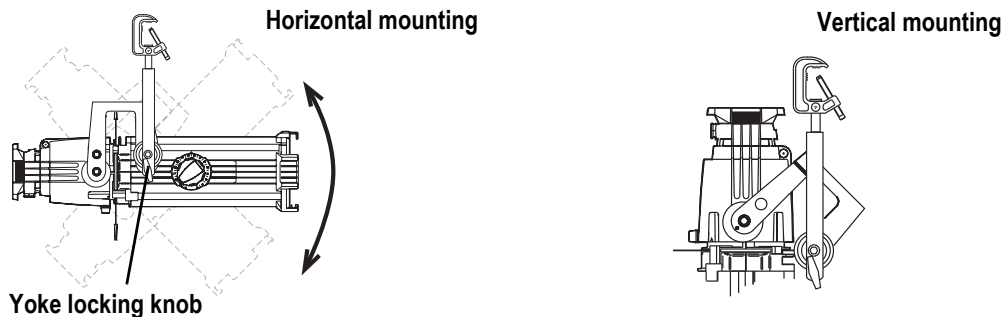

Figure 14
- Step 2: Tilt the fixture to the desired position as shown in Figure 14.